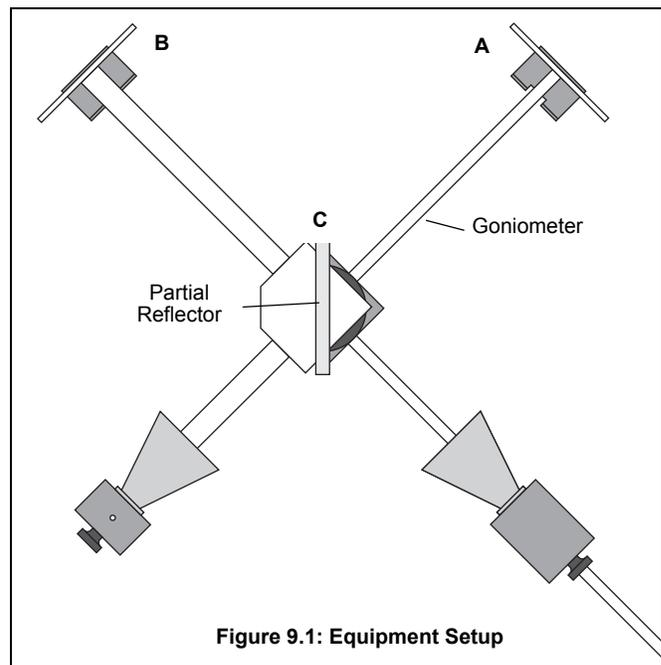

Figure 9.1: Equipment Setup
Like the Fabry-Perot interferometer, the Michelson interferometer splits a single wave, then brings the constituent waves back together so that they superpose, forming an interference pattern. Figure 9.1 shows the setup for the Michelson interferometer. **A** and **B** are Reflectors and **C** is a Partial Reflector. Microwaves travel from the Transmitter to the Receiver over two different paths. In one path, the wave passes directly through **C**, reflects back to **C** from **A**, and then is reflected from **C** into the Receiver. In the other path, the wave reflects from **C** into **B**, and then back through **C** into the Receiver.
1. Arrange the equipment as shown in Figure 9.1. Plug in the equipment and adjust the Receiver for an easily readable signal.